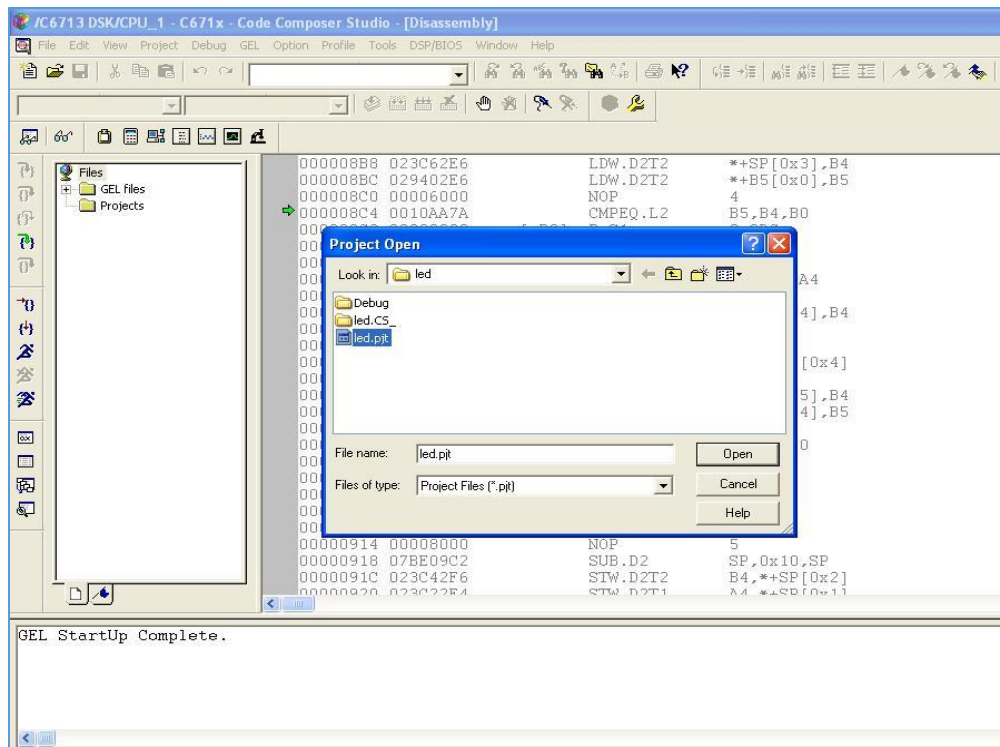

Figure 2.5: Loading the project led.pjt
2. Load the project **led.pjt** as shown in Figure 2.5 by going on Project > Open.